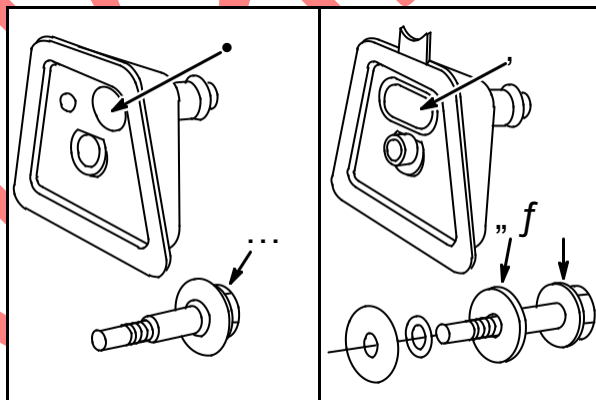

Fig. 3
Two styles of breathers are used, **Fig. 3.** The current style breather (left) uses a reed valve (1) to maintain crankcase vacuum. Early style breathers (right) contain a fiber disc type valve (2).